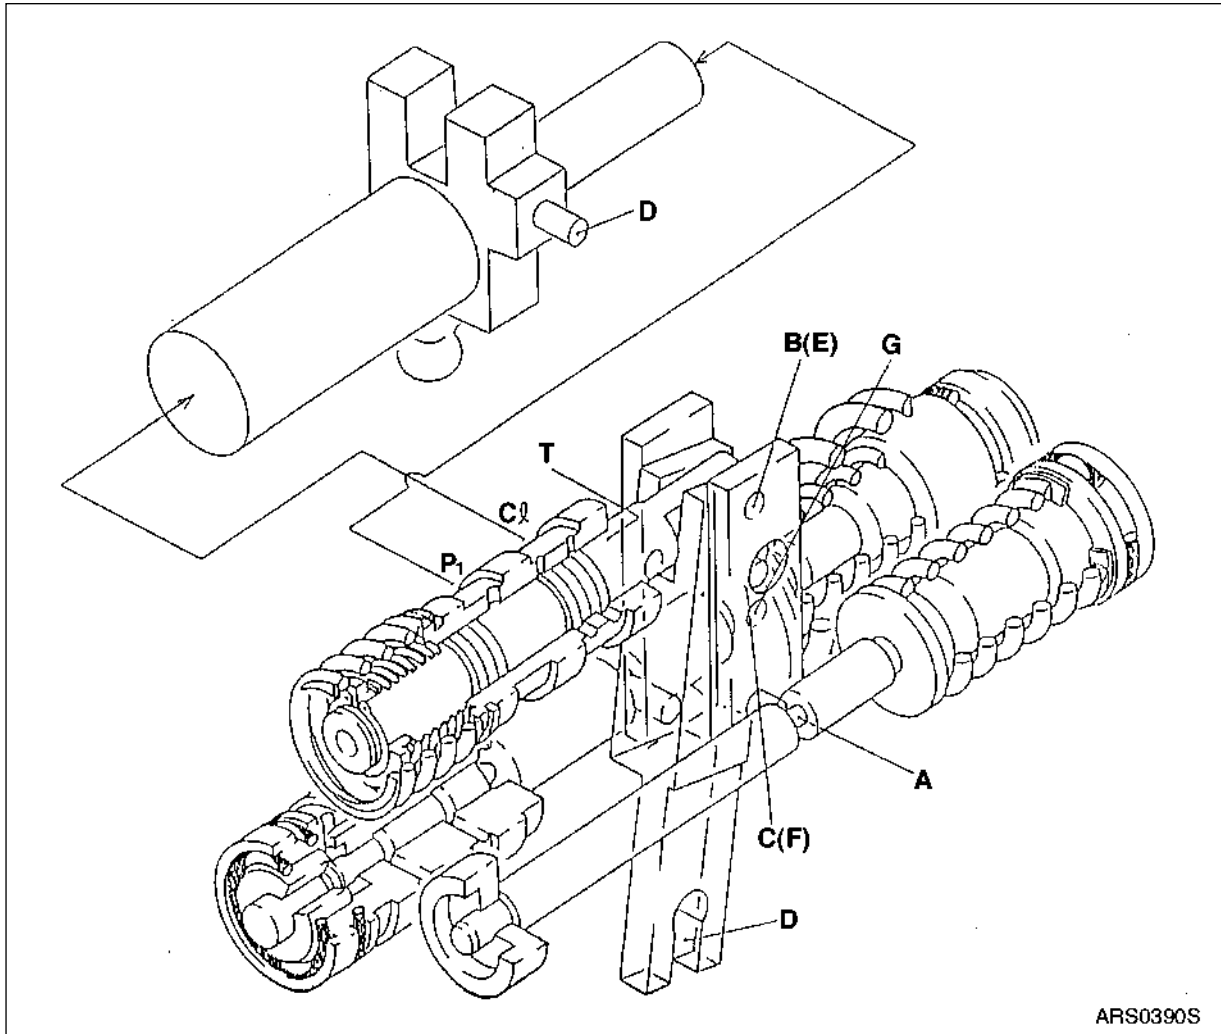

Figure 24
The groove (A) in the pilot piston is fitted with the pin (875) that is fixed to lever 2 (613). Therefore, when the pilot piston moves, lever 2 rotates around the fulcrum of point B (fixed by the fulcrum plug (614) and pin (875)). Since the large-hole section (C, Figure 24) of lever 2 contains a protruding pin (897) fixed to the feedback lever (611), the pin (897) moves to the right as lever 2 rotates. Since the opposing-flat section (D) of the feedback lever is fitted with the pin (548) fixed by the tilting pin (531) that swings the swash plate, the feedback lever rotates around the fulcrum of point D, as the pin (897) moves.